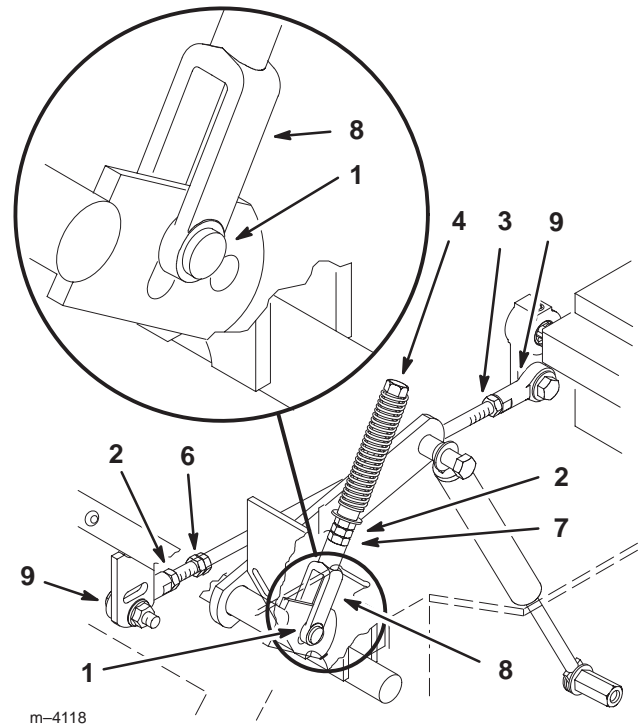

Figure 45
4. Pull lever back until the clevis pin (on arm below pivot shaft) contacts the end of the slot (just beginning to put pressure on the spring) (Fig. 45).
6. If adjustment is needed, loosen the nut and jam nut against the yoke (Fig. 45).
8. Tighten the nut and jam nut (Fig. 45).
1. Loosen the locknuts at the ball joints on pump control rod (Fig. 45).
3. Adjust pump rod length by rotating double nuts on rod, in the appropriate direction, until wheel is still or slightly creeps in reverse (Fig. 45).
6. Tighten the nuts at the ball joints (Fig. 45).